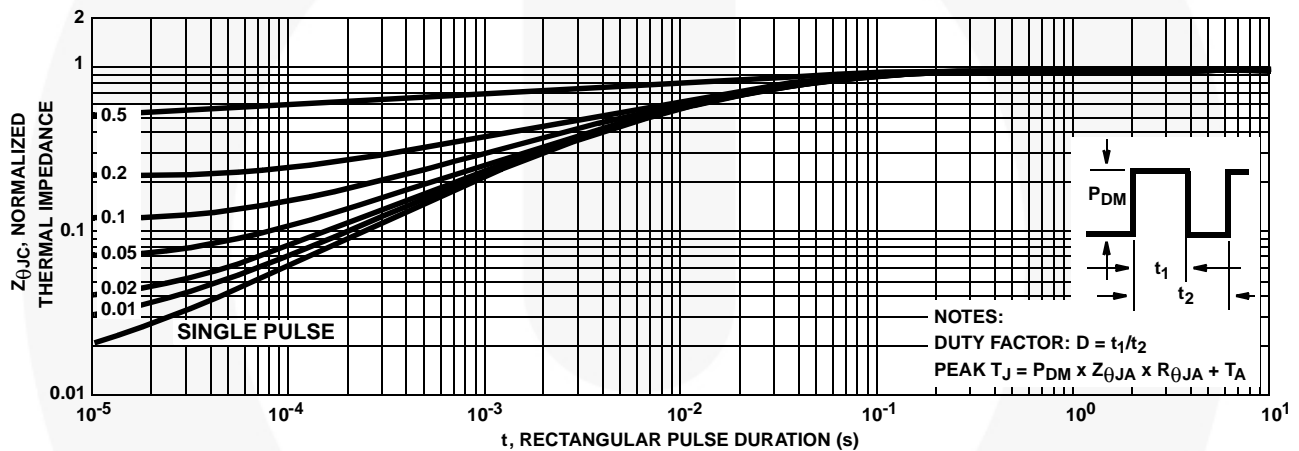

FIGURE 3. NORMALIZED MAXIMUM TRANSIENT THERMAL IMPEDANCE
3. Repetitive rating: pulse width limited by maximum junction temperature. See Transient Thermal Impedance curve (Figure 3) and Peak Current Capability Curve (Figure 5).